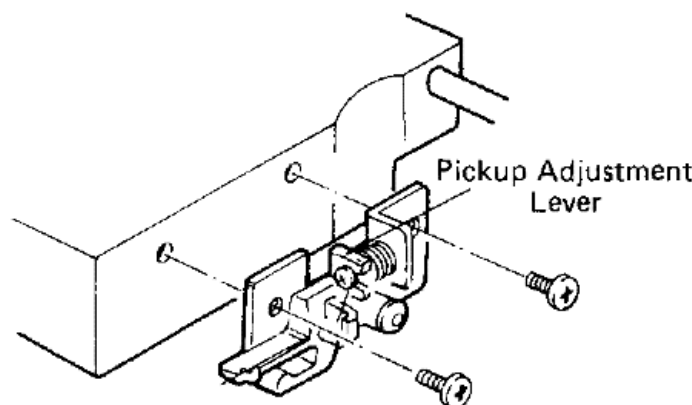

FIGURE 30-34 Remove two metal screws to remove the pickup-adjustment lever.
- 7** Remove the pickup lever by removing the two screws (Fig. 30-34).